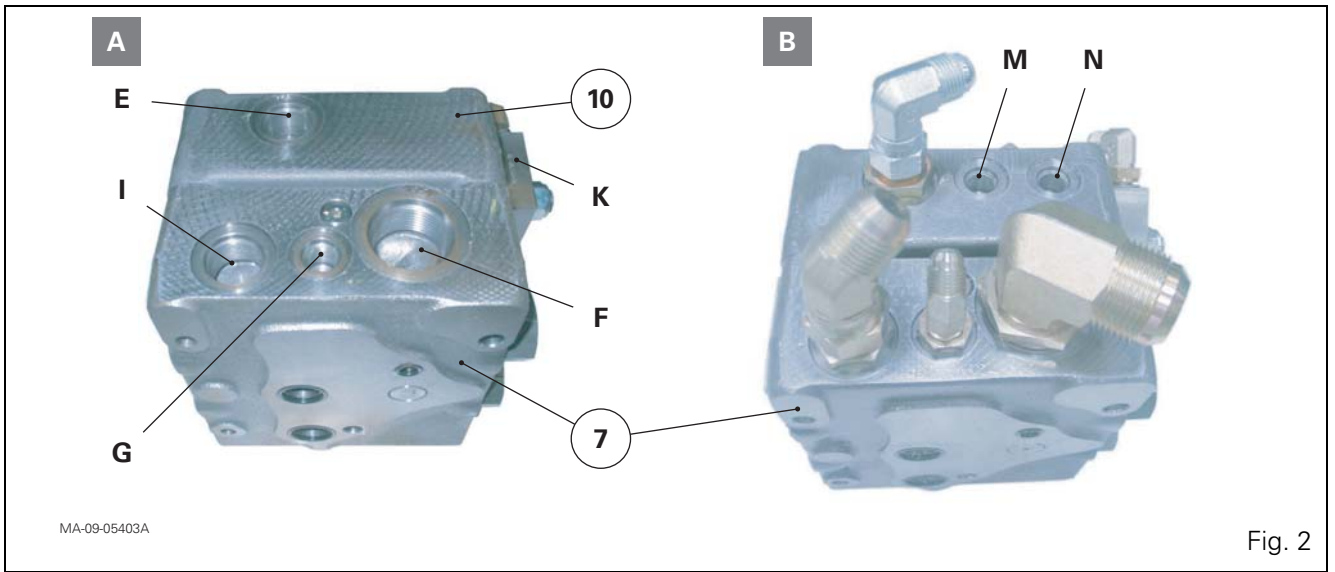

Fig. 2
NOTE 2: For the version with high-pressure braking with or without a trailer brake, tractors are systematically fitted with a hydraulic unit with two priority blocks. These priority blocks can be distinguished from the priority blocks on the 40 kph version with trailer braking by a higher number of hydraulic ports. These additional hydraulic ports (M) and (N) (Fig. 2) are used by the high-pressure braking unit. A trailer brake valve is integral with the outer priority block (10). It is supplied by the control pressure from the block/valve assembly when the brake pedals are locked together.
Parts list (Fig. 2 to Fig. 5)
- (A) Supply to steering spool valve (Orbitrol)
- (B) High-pressure supply from variable displacement pump
- (C) LS pilot flow to the variable displacement pump regulator
- (D) LS pilot flow from the steering spool valve (Orbitrol)
- (E) To trailer brake connector
- (F) Pressure to linkage valve and auxiliary spool valves
- (G) LS pilot flow from linkage valve and auxiliary spool valves
- (I) 17 or 21 bar outlet
- (J) Plugs
- (K) Pilot flow from brake master cylinders (40 kph tractors) or block/valve assembly (tractors fitted with high-pressure braking)
- (M) High pressure internal channel to the braking unit (tractors fitted with high-pressure braking) (Fig. 2, Fig. 8)
- (N) LS pilot flow from the braking unit which is directed to the variable displacement pump regulator via a channel inside the priority block (10) (tractors fitted with high-pressure braking) (Fig. 2, Fig. 8)
- (O) Vent port (trailer brake line)
- (BP) Low-pressure spool
- (HP) High-pressure spool